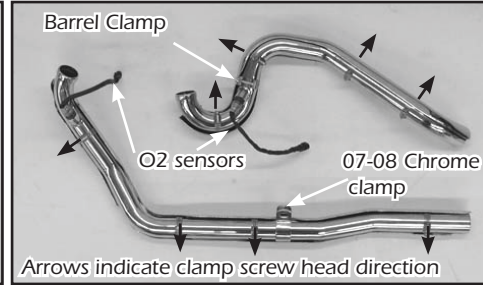

FIGURE 6
- On the rear head pipe (D451FC)(supplied) slide the barrel bolt clamp (supplied) up the pipe so it sits on the straight section of pipe closest to the cylinder head. When pipe is installed, clamp nut should hang under head pipe and point towards the engine (Figure 6).